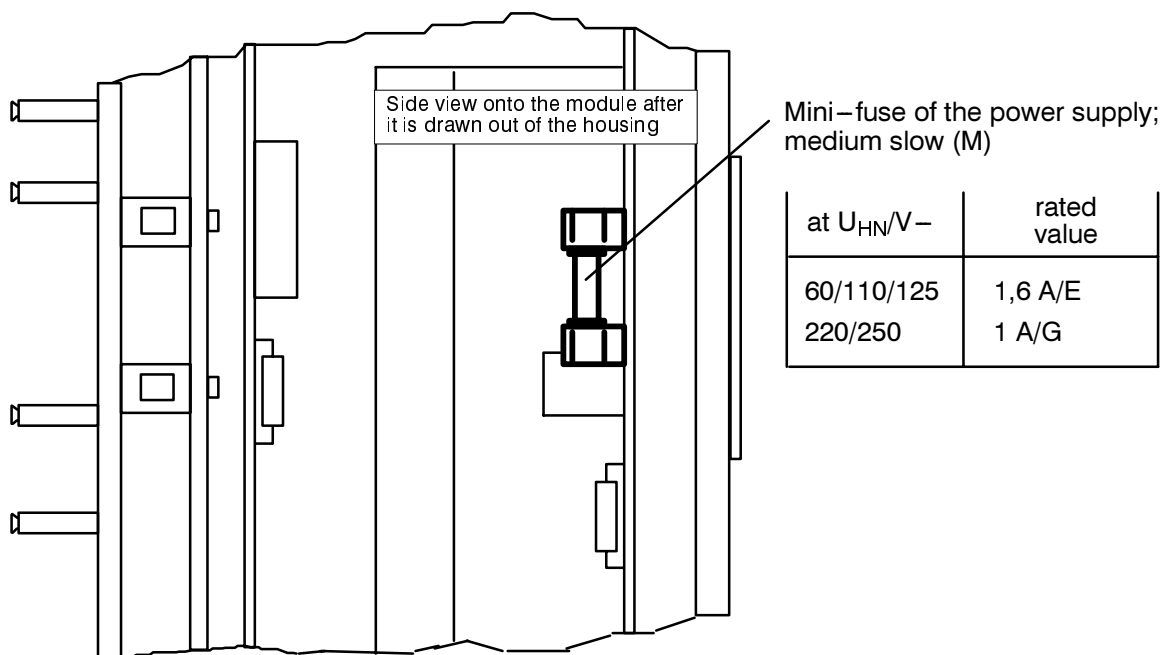

Figure 7.1 Mini-fuse of the power supply
- Has the mini–fuse in the power supply section blown (see Figure 7.1)? If appropriate, replace the fuse according to Section 7.2.1.
- Select a replacement fuse  $5 \times 20$  mm. Ensure that the rated value, time lag (medium slow) and code letters are correct. (Figure 7.1).
- Remove blown fuse from the holder (Figure 7.1).
- Fit new fuse into the holder (Figure 7.1).